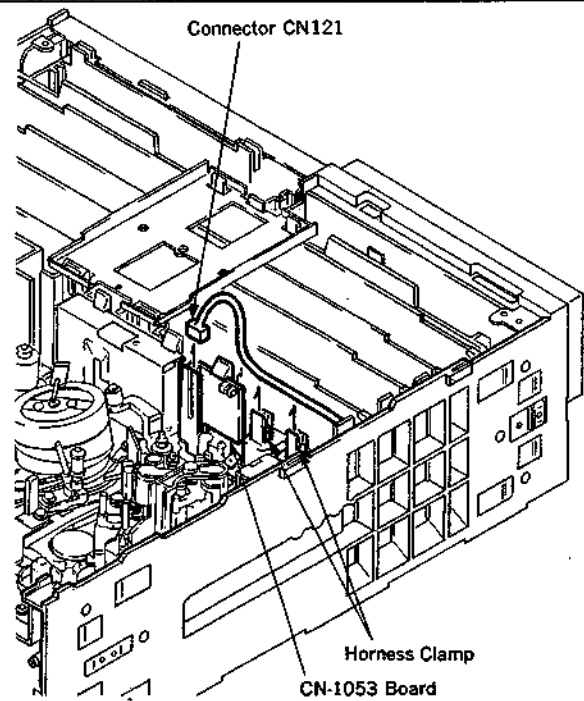
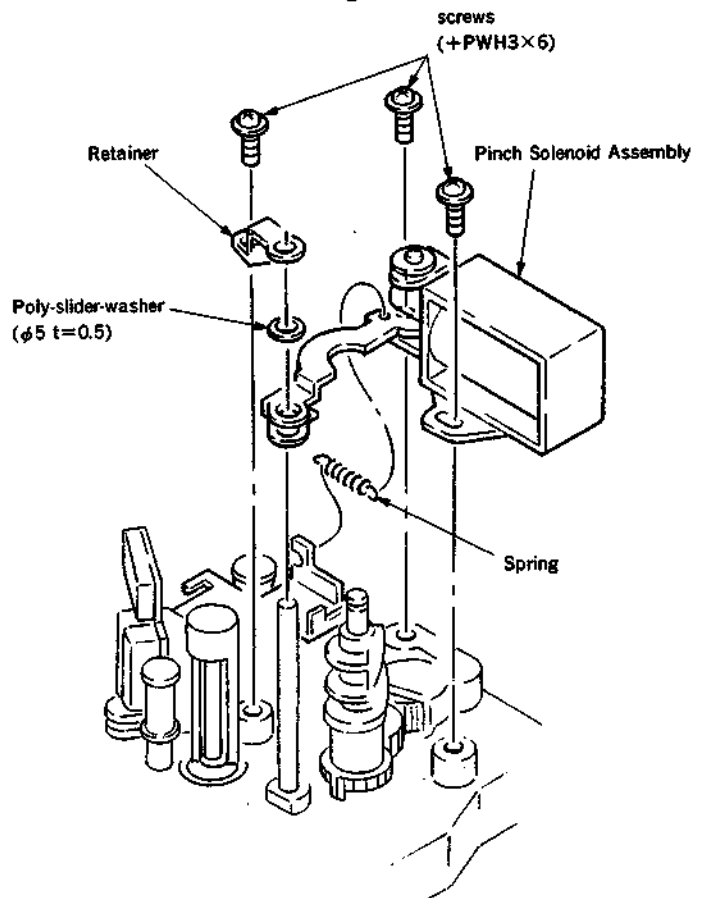

Fig. 1
Fig. 2
- (1) Disconnect connector CN121 from the CN-1053 board, then remove the harness from the Harness clamp of chassis. (Fig. 1)
- (2) Pull out the pinch roller block ass'y referring to Sec. 4-12.
- (3) Remove the screw, then remove the retainer and the poly-slider-washer. (Fig. 2)
- (4) Remove the two screws, then raise the pinch solenoid ass'y and remove it. (Fig. 2)
- (3) Press the cassette down switch manually, and while keeping it depressed, turn the POWER switch ON. (Fig.2)
- (4) Put the VTR in the PLAY mode.